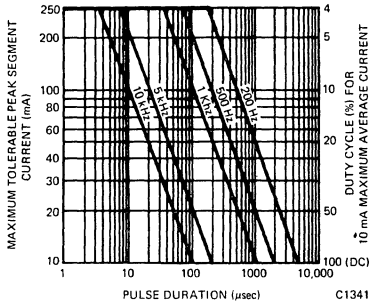

Fig. 1. Maximum Tolerable Peak Segment Current vs. Pulse Duration
- The corresponding maximum peak current per segment from Fig. 1 is 250 mA. The intersection of 500 HZ and 62.5 μs pulse duration lies in the <4% duty cycle condition. IAVG = 250 mA X .03125 = 7.8 mA which is the maximum average current for operation at TA (ambient temperature) = 25° C.